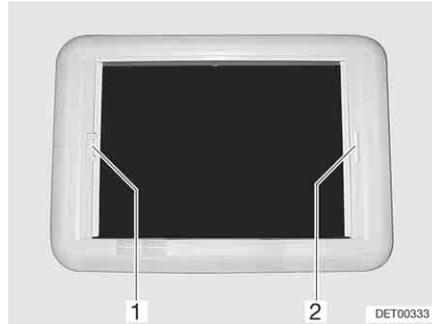

Fig. 77 Heki skylight, blind lock
- Pull blind at the handle (Fig. 77,2) to the opposite handle of the insect screen (Fig. 77,1) and allow to engage.
- With your other hand, push the unlocking bar on the handle of the insect screen (Fig. 77,1) towards the handle. The lock is released.
- Pull insect screen at the handle (Fig. 77,1) to the opposite handle of the blind (Fig. 77,2) and allow to engage.
- Hold the insect screen (Fig. 77,1) by the handle and push the unlocking bar towards the handle. The lock is released.